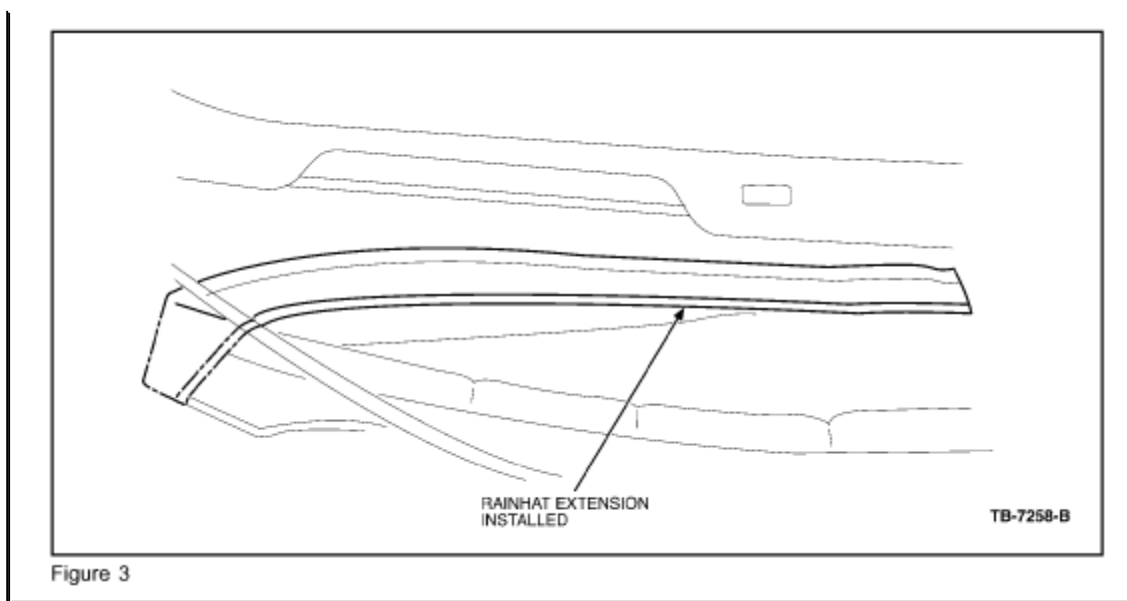

Figure 3
6. Install the Rain-Hat Extension Seal or Shed Lip Seal 4F1Z-54022A54-AA to the outboard edge of the rain-hat (see Figure 2 for installation). The 10 mm by 10 mm (0.5" by 0.5") cut area, located 25 mm (1") from the end of the seal, will face down and locate at the 90 degree bend of the rain-hat on the fender side (Figure 3).